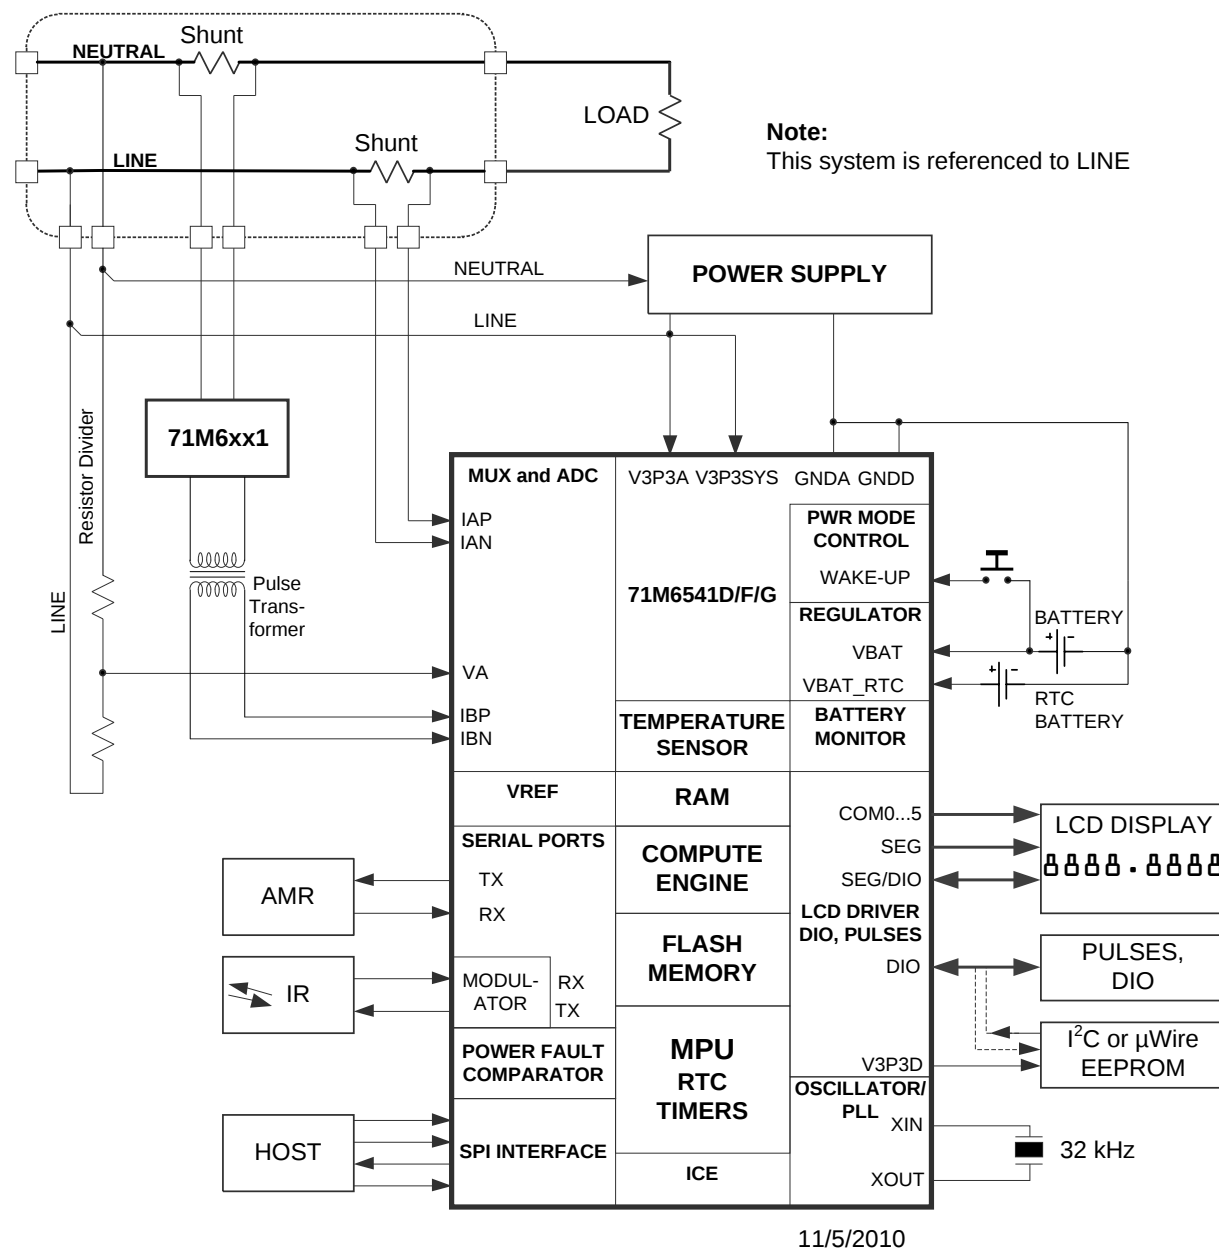
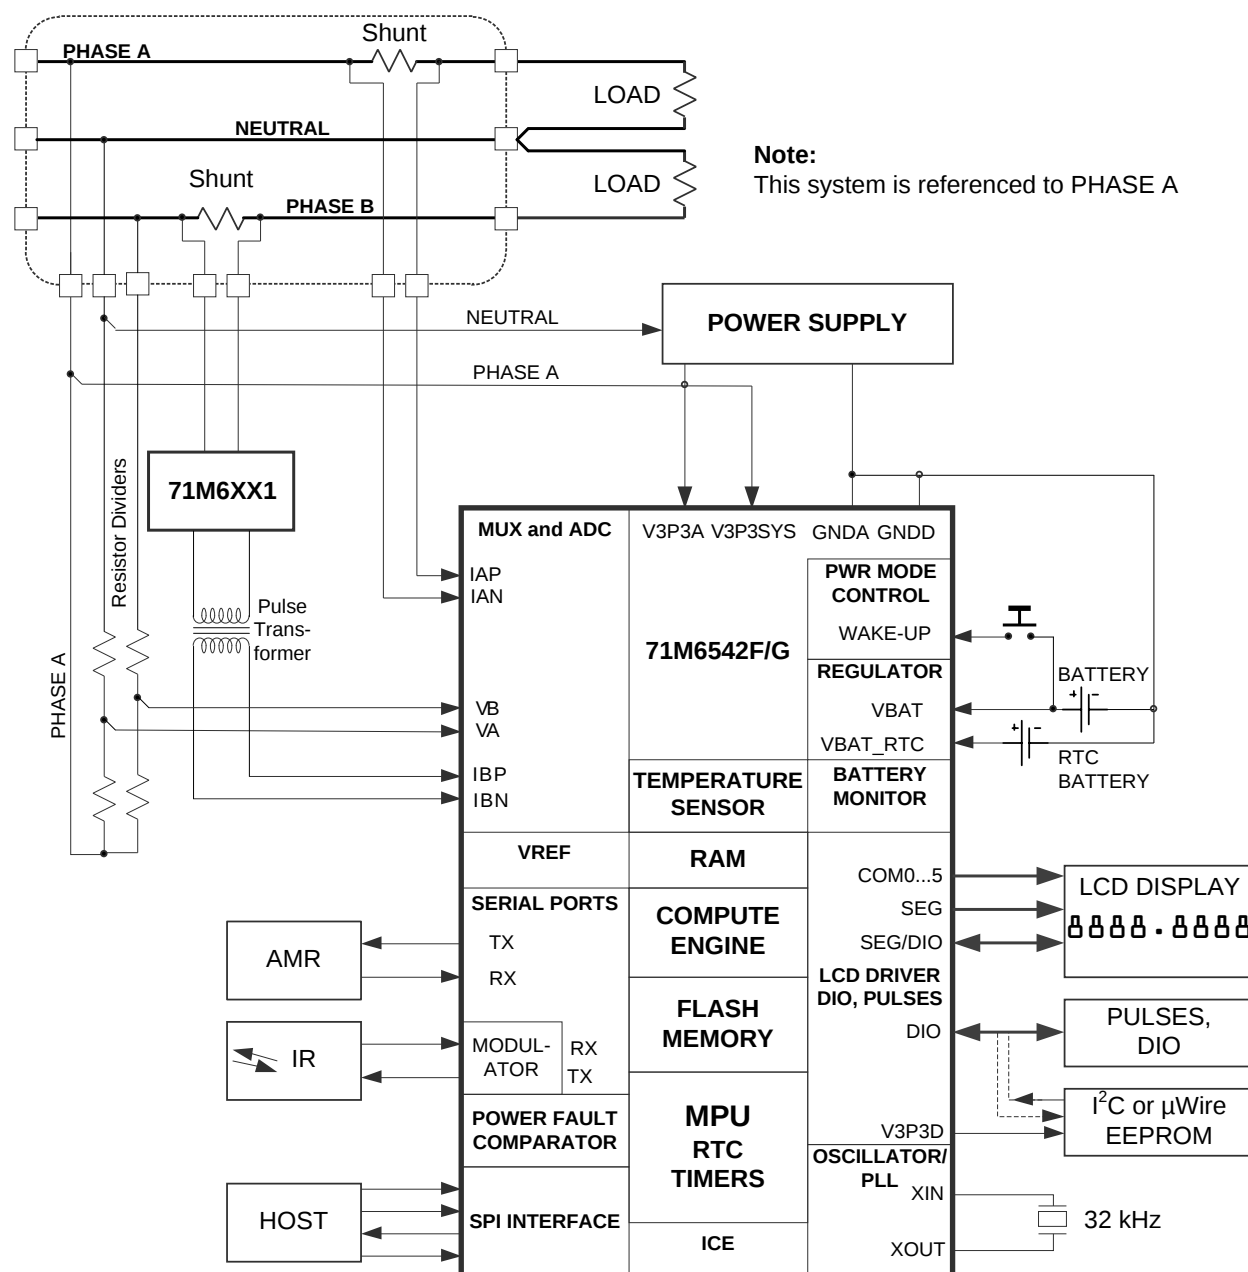

Figure 36: 71M6541D/F/G with 71M6x01 isolated Sensor
Figure 38: 71M6542F/G with 71M6x01 Isolated Sensor
Figure 36 shows a typical connection for one isolated and one non-isolated shunt sensor, using the 71M6x01 Isolated Sensor Interface. This configuration implements a single-phase measurement with tamper-detection using the second current sensor. This configuration can also be used to create a split phase meter (e.g., ANSI Form 2S). For best performance, the IAP-IAN current sensor input is configured for differential mode (i.e., $DIFFA_E = 1$, I/O RAM 0x210C[4]). The outputs of the 71M6x01 Isolated Sensor Interface are routed through a pulse transformer, which is connected to the pins IBP-IBN. The IBP-IBN pins must be configured for remote sensor communication (i.e., $RMT_E = 1$, I/O RAM 0x2709[3]). See Figure 3 for the AFE configuration corresponding to Figure 36.
Figure 38 shows a 71M6542F/G configuration using locally connected current sensors. The IAP-IAN current channel may be directly connected to either a shunt resistor or a CT, while the IBP-IBN channel is connected to a CT and is therefore isolated. This configuration implements a dual-phase measurement utilizing Equation 2. For best performance, both the IAP-IAN and IBP-IBN current sensor inputs are configured for differential mode (i.e., $DIFFA_E = 1$ and $DIFFB_E = 1$, I/O RAM 0x210C[4] and 0x210C[5]). The IBP-IBN input must be configured as an analog differential input disabling the remote sensor interface (i.e., $RMT_E = 0$, I/O RAM 0x2709[3]). See Figure 4 for the AFE configuration corresponding to Figure 38.
Figure 38 shows a typical two-phase connection for the 71M6542F/G using one isolated and one non-isolated sensor. For best performance, the IAP-IAN current sensor input is configured for differential mode (i.e., *DIFFA_E* = 1, I/O RAM 0x210C[4]). The 71M6x01 Isolated Sensor Interface is used to isolate phase B. The outputs of the 71M6x01 Isolated Sensor Interface are routed through a pulse transformer, which is connected to the pins IBP-IBN. The IBP-IBN pins must be configured for remote sensor communication (i.e., *RMT_E* = 1, I/O RAM 0x2709[3]). See Figure 5 for the AFE configuration corresponding to Figure 38.
This section discusses metrology temperature compensation for the meter designs where current shunt sensors are used in conjunction with the 71M6x01 isolated sensors, as shown in Figure 36 and Figure 38.
Referring to Figure 36 and Figure 38, the VA voltage sensor is available in the 71M6541D/F/G and 71M6542F/G and is directly connected to the 71M654x. The VB voltage sensor is available only in the 71M6542F/G and is also directly connected to it. Thus, the precision of these directly connected voltage sensors is affected by VREF in the 71M654x. The 71M654x also has one shunt current sensor (IA) which is connected directly to it, and therefore is also affected by the VREF in the 71M654x. The external current sensor and its corresponding signal conditioning circuit also has a temperature dependency, which also may require compensation, depending on the required accuracy class. Finally, the second current sensor (IB) is isolated by the 71M6x01 and depends on the VREF of the 71M6x01, plus the variation of the corresponding shunt resistance with temperature.